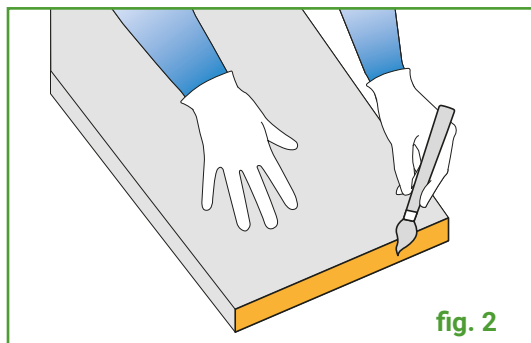

fig. 2
- on the edges of the material to be joined together (**fig. 2**)